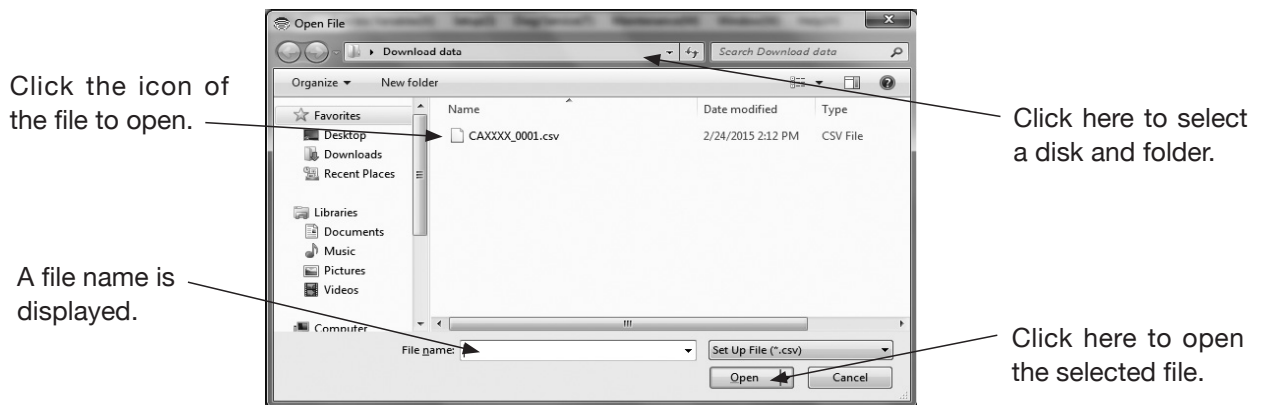

Fig.173
- ① Click "File (F)" > "Database (F)" > "Open File (O)" in the menu.
- ② The common dialog box (Fig. 173) appears. Select the disk and folder which have the file to be opened from the drop-down list.
- ③ Select the file to open from the displayed files. Verify the "File Name (N)" and then click the "Open (O)" button. Click the "Cancel" button to exit without opening a file.